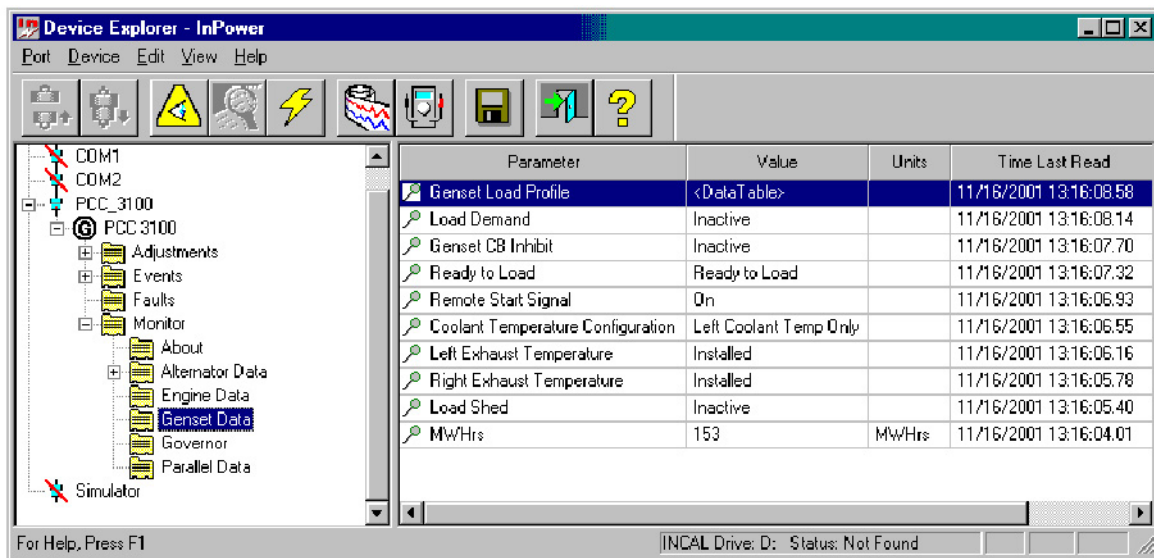

FIGURE 90. PCC 3100 GENSET LOAD PROFILE
**Example:** In this example (Figure 90), InPower is used to display a load profile for a PCC 3100 genset.